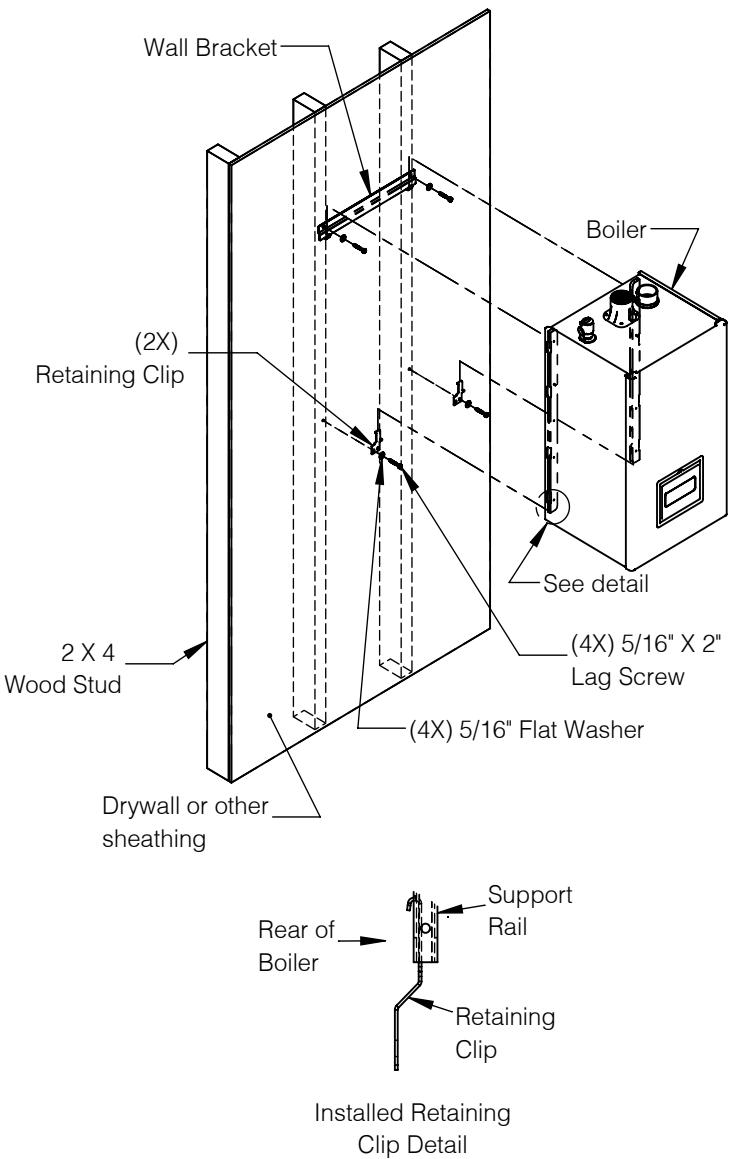

Figure 6-5: Mounting Boiler on Wall
4. Hang boiler on wall bracket. See Figure 6-5.